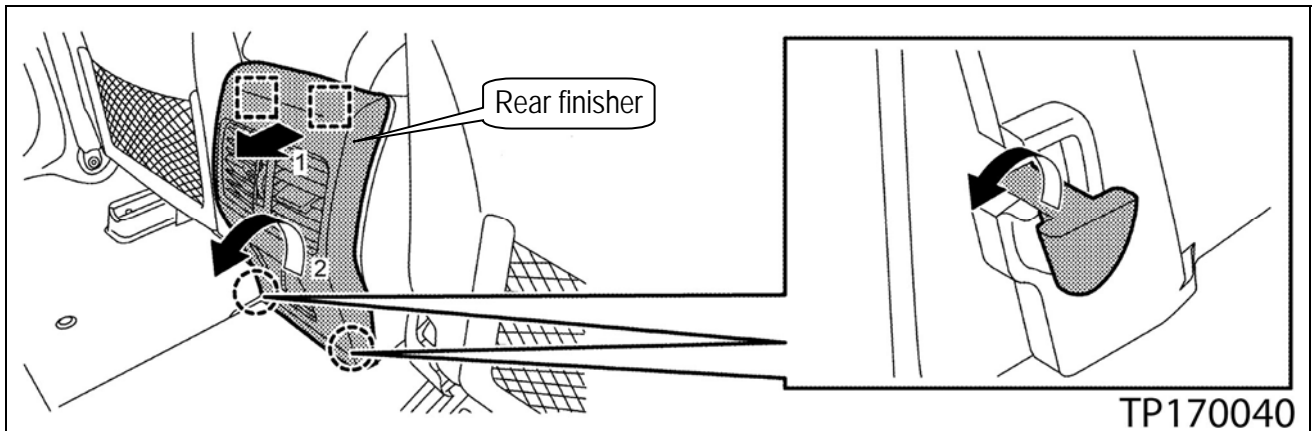

Figure 10
h. Unsnap the top [1], tilt back [2], and then lift out the center console rear finisher (see Figure 10).